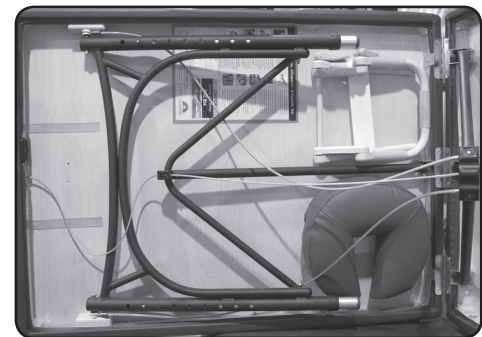

Fig. 4
Metal Models (except Advanta) (Fig. 4)
- Separate the Face Crescent Pad from the Face Rest. Insert the legs of the Face Rest Platform thru the elastic strip attached to the plywood top of the table. Fold the Platform back on itself and secure the cam locks. (as shown in Fig. 4).
- Place the Face Crescent pad on the Hook and Loop fasteners closest to the hinge side of the table (as shown in Fig. 4).